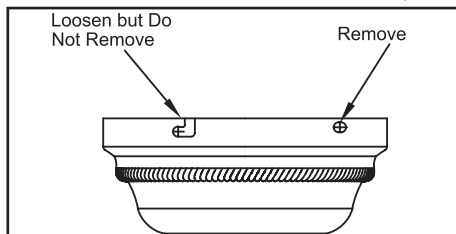

Figure 6
2. Remove the mounting plate from the canopy by loosening the four screws on the top of the canopy. Remove the two non-slotted screws and loosen the slotted screws. This will enable you to remove the mounting plate (Figure 6).
will enable you to remove the mounting bracket (Figure 6).